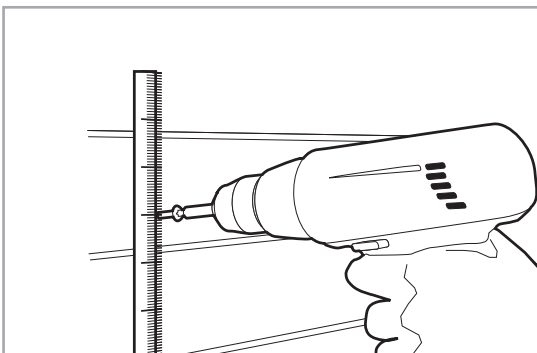

Figure 3.3
- 2) Fasten the heater to the wall with screws. Observe the safety distances between the heater and any inflammable material in accordance with table 4.4 (see Figure 3.3) when installing the heater.